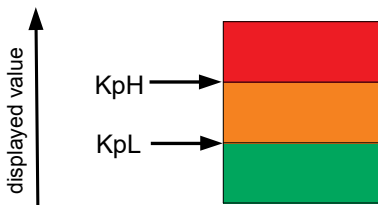

Fig. 6. Display color configuration
- a) display colours of the measured value. The displayed range is divided into three zones separated by KpL and KpH values (suitably the lower threshold KpL and the upper threshold KpH of display colour change – fig.6). The colour of displayed numbers for each zone is selected from three accessible colours: green, orange and red. KpL and KpH values are set by the user and concern the displayed value (i.e. taking also into consideration the individual characteristic). The manufacturer value KpL is equal 100% of the rated value, however KpH is equal 105% of the rated value, e.g. for a 10 V meter execution they are respectively: for KpL – 10 V and for KpH – 10.5 V.